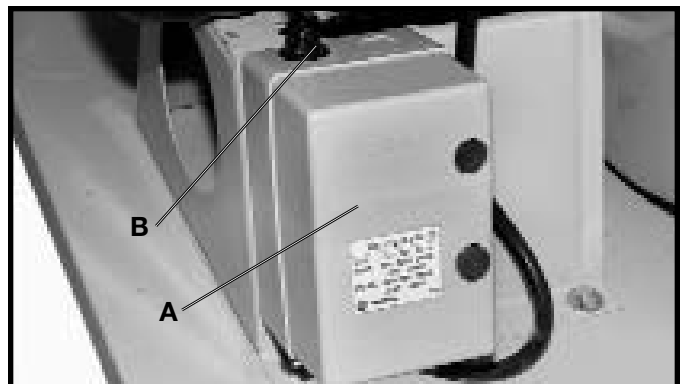
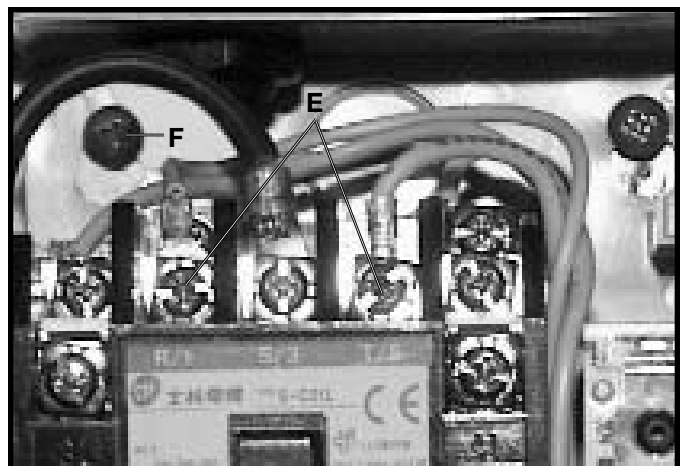

Fig. 34
Fig. 35
1. To connect the dust collector to a power system, remove controller cover (A) Fig. 34.
2. Bring the single phase power line through the access hole (B) Fig. 34, in the top of controller box and connect the two power lines to terminals (E) Fig. 35, and the green ground wire to ground screw (F).